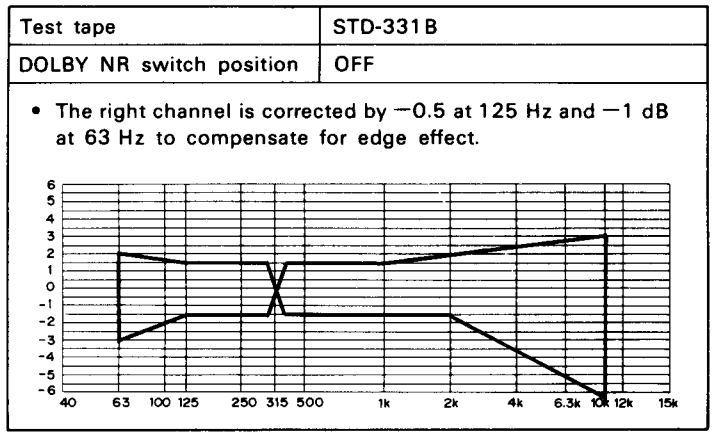

Fig. 7-5 Playback frequency response tolerance zone
* Select the test tape, tape selector, and Dolby NR switch and satisfy the frequency characteristic zone as shown in Figs. 7-5 and 7-8.